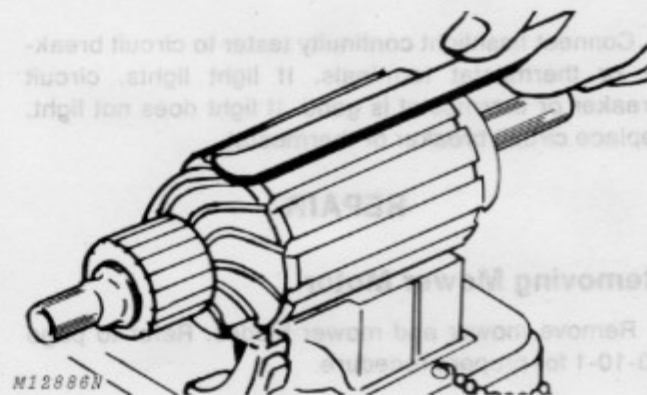

Fig. 2-Testing Armature for Short Circuits
1. SHORTS - A burned commutator bar indicates a shorted armature. Short circuits are located by rotating the armature on a growler with a steel strip (hacksaw blade) held on the armature, Fig. 2. The steel strip will vibrate at the area of the short circuit.